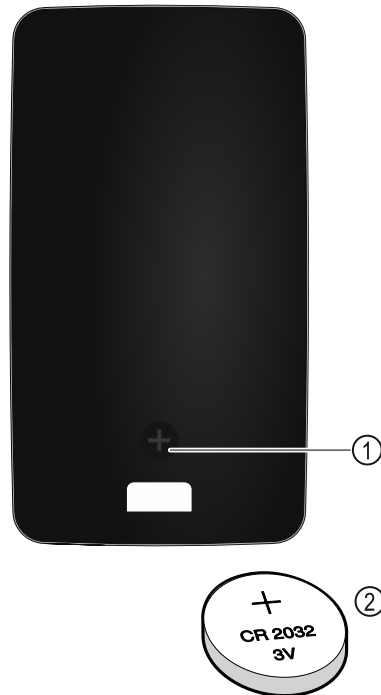

Fig. 141
The remote control is powered by a 3V CR 2032 battery Fig. 141 (2) available from specialist retailers.
- ▶ Undo screw Fig. 141 (1) on the back of the remote control.